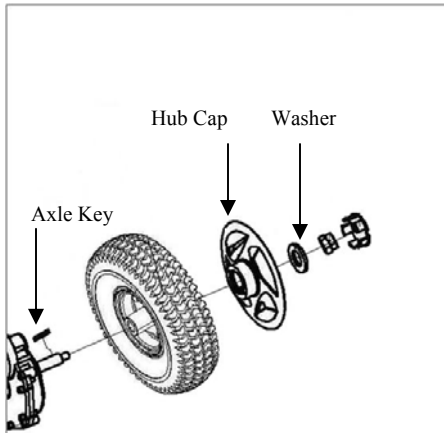

Figure 7. Drive Wheel Assembly
4. Remove the drive wheel. **Note: Make sure to retain the axle key.** See figure 7.
11. Remove the drive wheel. See drive wheel replacement and figure 7 on page 22.